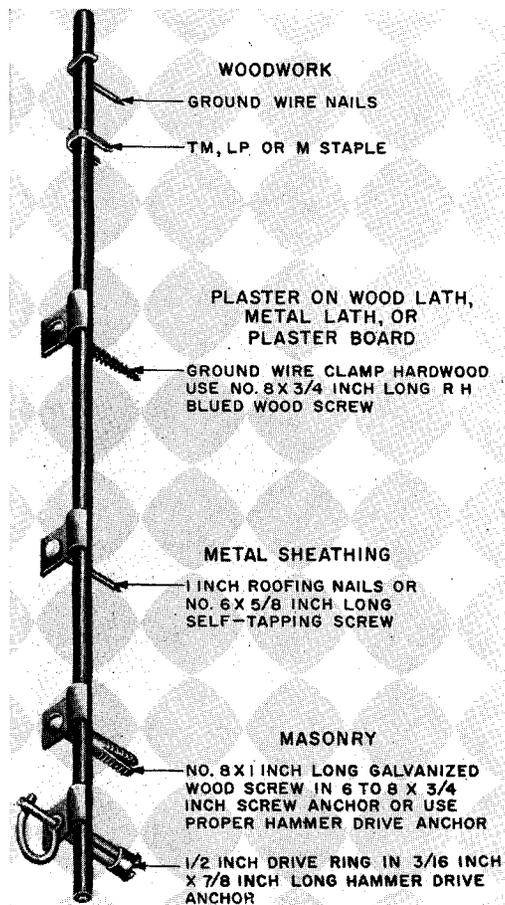

FIG. 25—FASTENERS FOR GROUND WIRE
**9.01** Fasteners for ground wire and their use are shown in Fig. 25.